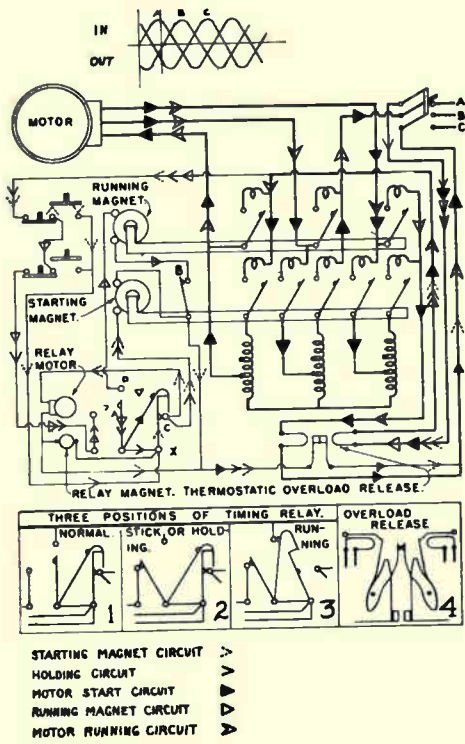

Fig. 16-30
**Fig. 16-30.** Magnetic auto-starter with push-button control and motor-driven timing relay to regulate the duration of the starting period. Starting and running circuits in heavy lines, control circuits in light lines.